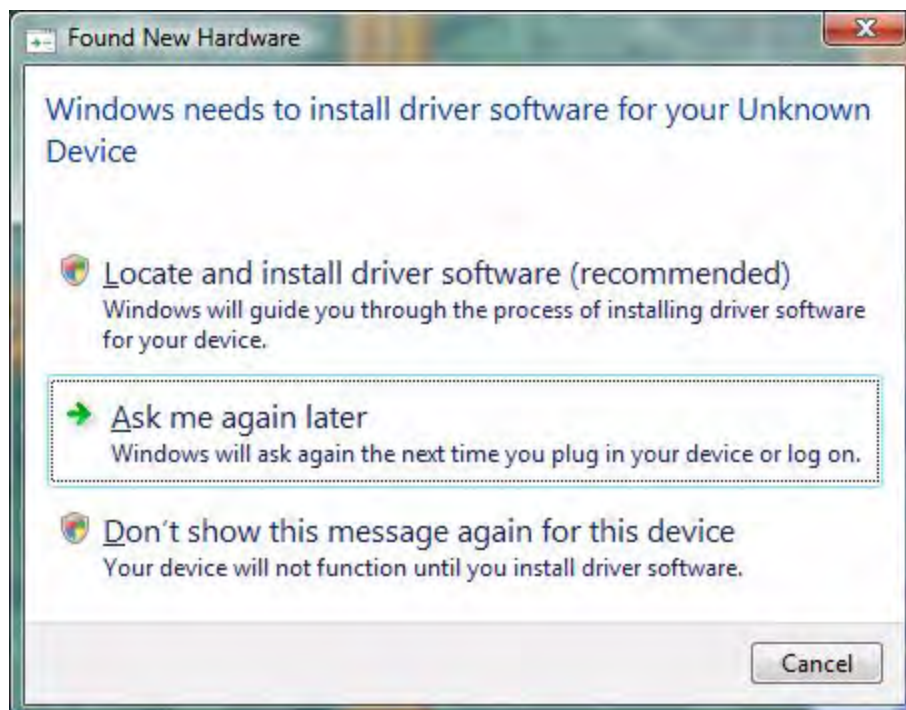

Figure 33. Found New Hardware Dialog, Windows Vista
2. After the PC detects the new hardware, it will display the Found New Hardware Wizard dialog box, shown in Figure 33. Click **Locate and install driver software (recommended)**.